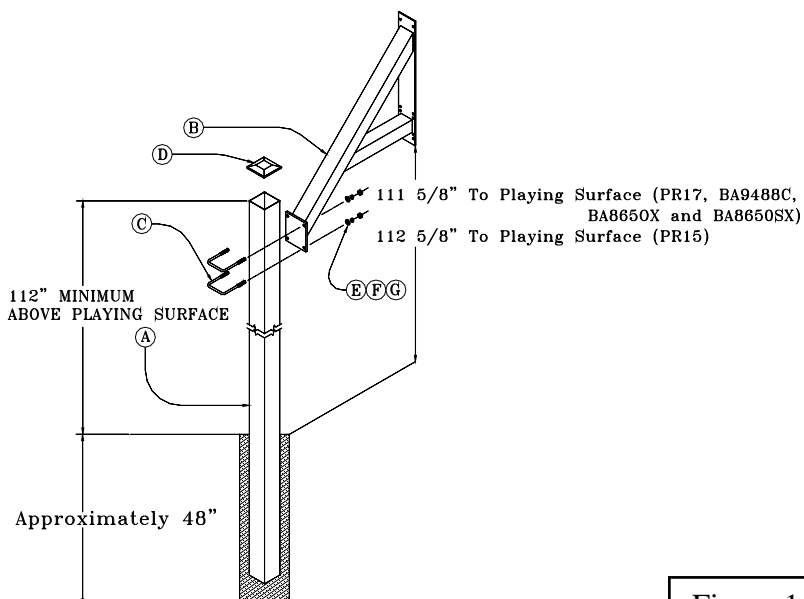

Figure 1
1. When positioning the pole, take into consideration that the backboard will be approximately 3' from the front of the *Vertical Pole* (A). Dig a 12" (minimum) diameter by 48" deep hole.
2. It's important to make sure that at least 112" of the *Vertical Pole* (A) extends above the playing surface to ensure the official 10' playing height. See Figure 1.
3. You will need approximately 6 cubic feet of concrete for your installation (ready mix bags are typically 1/3 cubic foot each). Fill the entire *Vertical Pole* (A) with concrete for maximum rigidity. The *Vertical Pole* (A) must be vertical to the playing surface. It is recommended to brace the pole during the curing process.
4. After allowing 7 days curing time for the concrete, mount the *45 Degree Extension Arm* (B) as shown using *U-Bolts* (C), *1/2" Hex Nuts* (E), *1/2" Flat Washers* (F) and *1/2" Lock Washers* (G). The arm can be loosely mounted at ground level and raised to correct height or it can be mounted at the correct height depending upon equipment availability. See Figure 1.